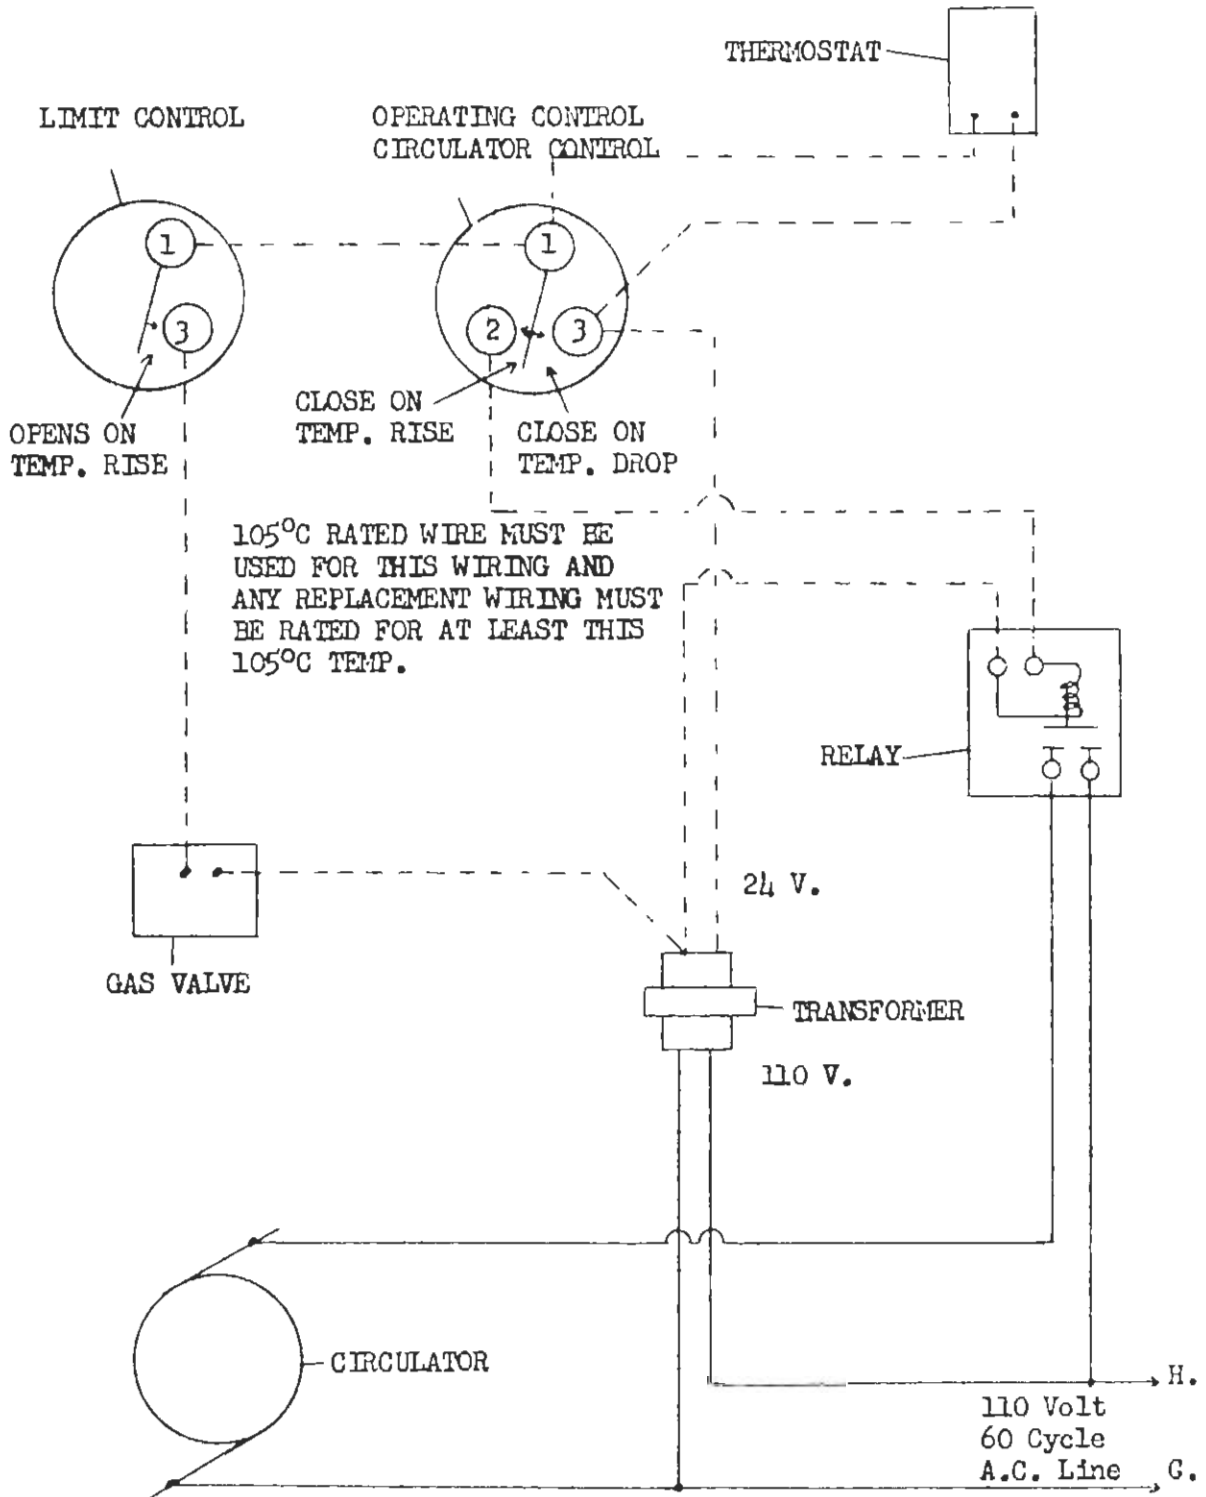

FIGURE 3
35. Complete wiring as shown in wiring diagram Figure 3. When Immersion Limit Control is used wire the same, except the Immersion Limit Control is used in place of the limit control shown.